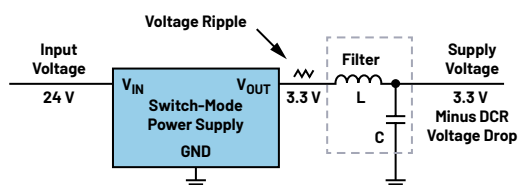

Figure 2. A filter circuit with an LC filter to reduce the voltage ripple of an SMPS.
In recent years, linear regulators have found new main applications, particularly in supply line filtering. Figure 2 shows a passive filter option utilizing an LC filter, which consists of a capacitor and a coil. This type of filter is preferred due to its low direct current (DC) losses, primarily attributed to the series resistance (DCR) of the coil L. Figure 2 shows such an LC filter.
There are different ways to implement a filter, and one significant advantage of using a linear regulator for filtering is its precise regulation of the output voltage. An LC filter lacks its own voltage regulation loop, causing the generated voltage to be influenced by the behavior of the original voltage source, such as an SMPS. Depending on the DC current flow through the LC filter (shown in Figure 2), the coil's DCR can impact the output voltage to varying degrees. While this behavior may be acceptable for applications with constant load current, it can pose challenges in applications with varying load currents.